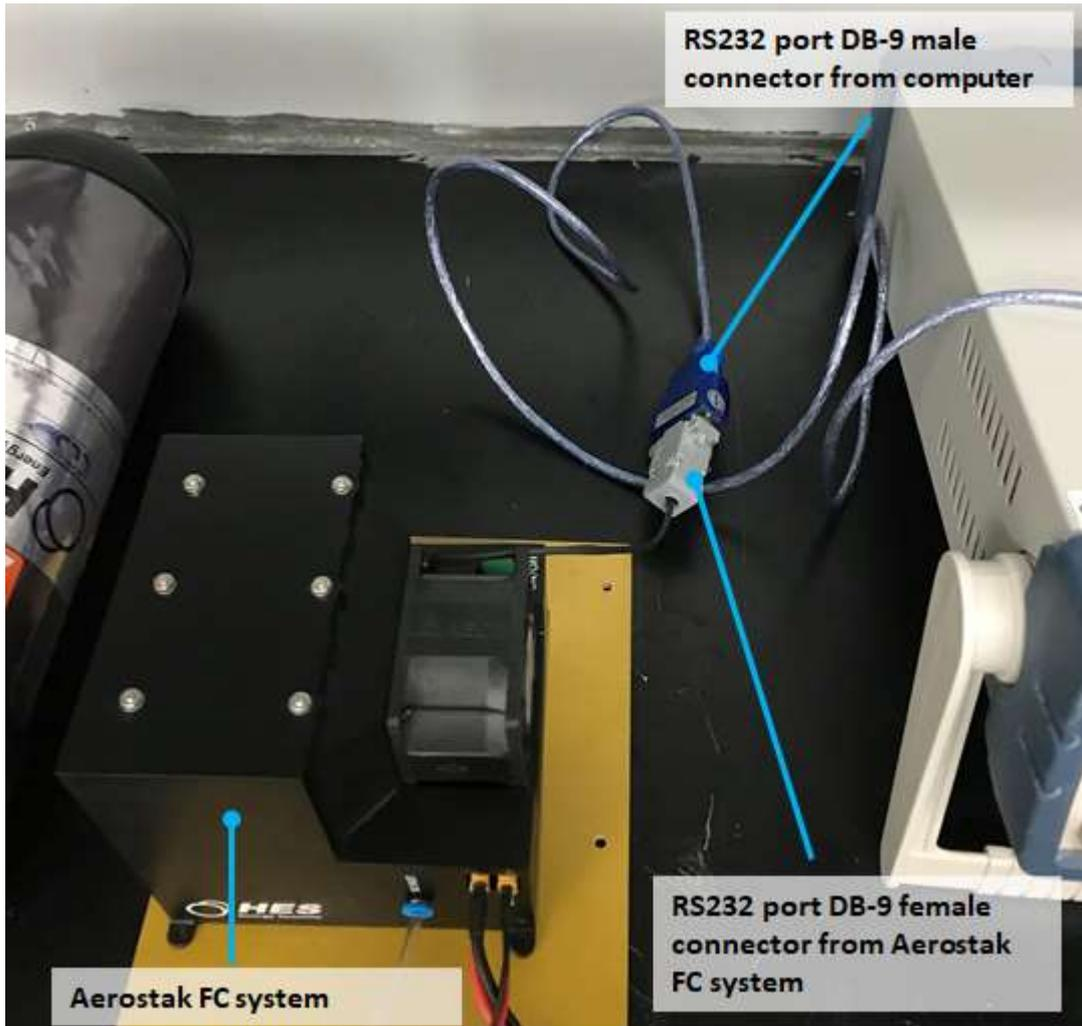

Figure 12. This setup is for illustration purposes. In this setup, an Aerostak FC product was used to show how to make connection to a standard computer.
4. Connect the RS232 DB-9 female connector to a DB-9 Male connector at the computer (see Figure 12). A DB-9 male connector with a USB adapter is not included in the system but it is available commercially. If the user needs assistance with identification of the DB-9 male connector with a USB adapter, please contact HES at sales@hes.sg.